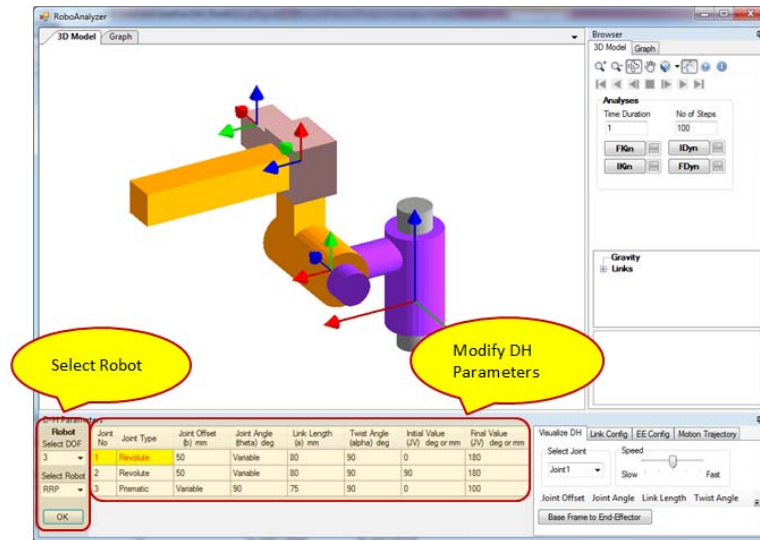
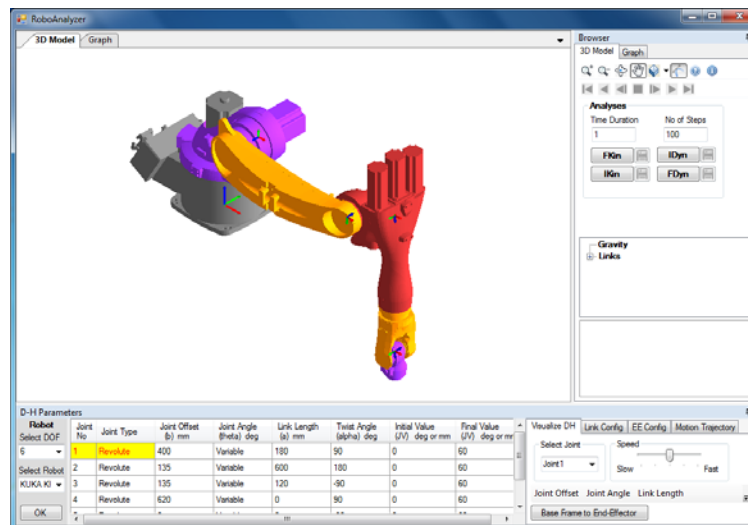

Figure 1: Select Robot Model and Redefine DH Parameters
Figure2: 3D CAD Model of Industrial Robot
Double click on RoboAnalyzer4.exe starts RoboAnalyzer. By default, it shows a robot model (2-R). Users can select a robot from the options given at the left bottom corner of the application as shown in Figure 1. After selecting a robot model, users can modify the Denavit-Hartenberg (DH) parameters shown in the tabular form and the robot model updates automatically. A few industrial robots are also listed, when selected shows a 3D CAD model of the robot (Figure 2).